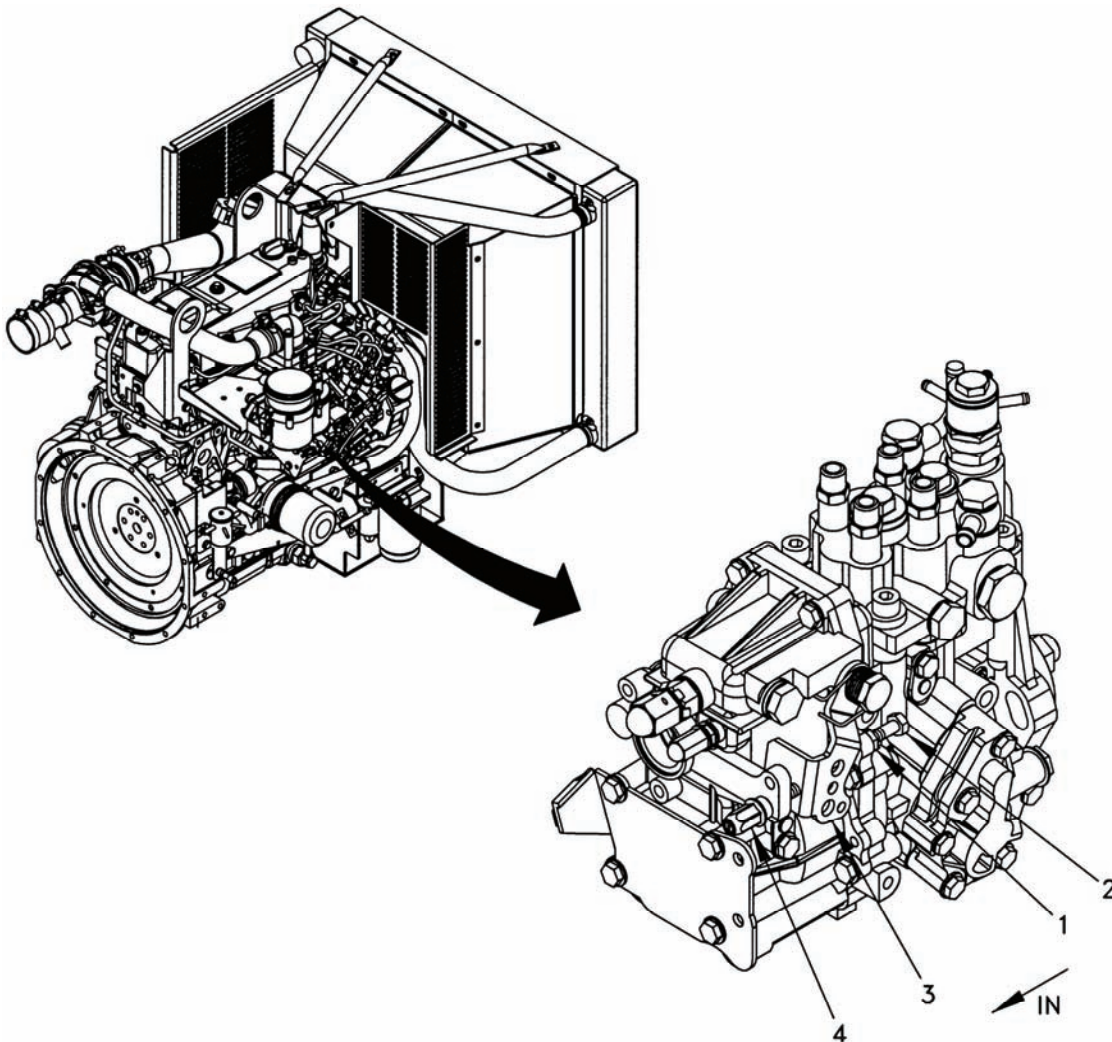

Figure 5-48. Fuel Injection Pump Idle Speed Screw.
- a. With engine stopped, turn idle speed screw (1, Figure 5-48) on engine all the way in and tighten jam nut (2).
- b. End of idle speed screw must move throttle bracket (3) within 3/16 inch (0.47 cm) of maximum speed screw (4). If throttle speed screw does not push throttle bracket far enough, throttle speed screw must be replaced with a slightly longer screw.